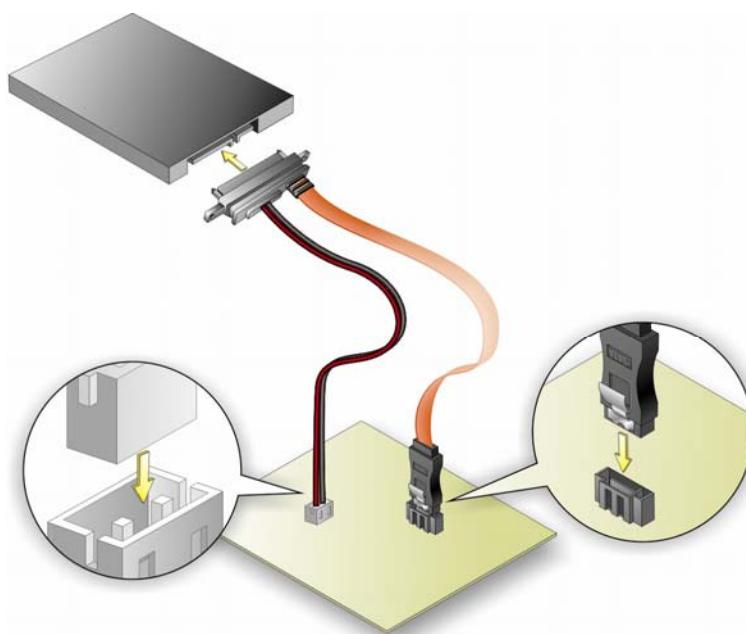

Figure 4-13: SATA Drive Cable Connection
Step 2: Insert the cable connector. Insert the cable connector into the on-board SATA drive connector and the SATA power connector. See Figure 4-13.
Step 3: **Connect the cable to the SATA disk.** Connect the connector on the other end of the cable to the connector at the back of the SATA drive. See **Figure 4-13**.